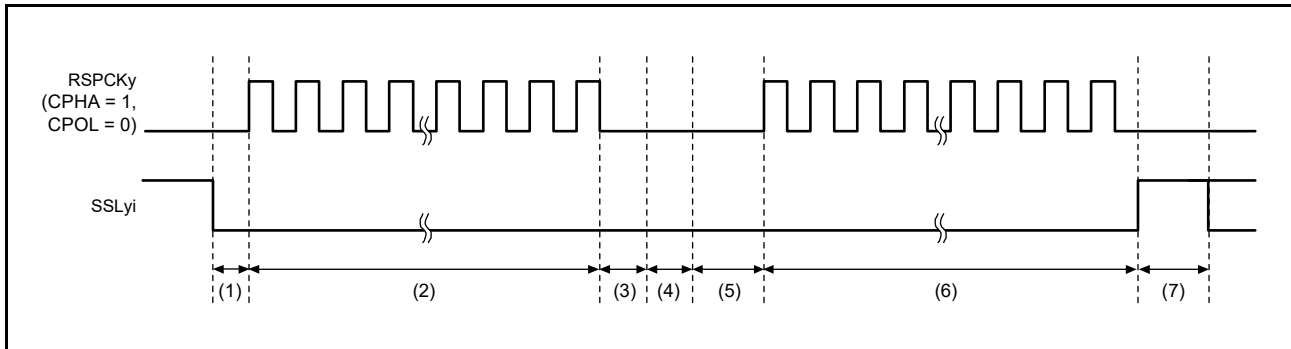

Figure 28.34 Example of Burst Transfer Operation Using SSLKP Bit
Figure 28.34 shows an example of an SSLyi signal operation for the case where a burst transfer is implemented using SPCMD0 and SPCMD1 register settings. The text below explains the RSPI operations (1) to (7) as shown in Figure 28.34. It should be noted that the polarity of the SSLyi output signal depends on the SSLP register settings.
- (1) Based on SPCMD0, the RSPI asserts the SSLyi signal and inserts RSPCK delays.
- (2) The RSPI executes serial transfers according to SPCMD0.
- (3) The RSPI inserts SSL negation delays.
- (4) Since the SPCMD0.SSLKP bit is 1, the RSPI keeps the SSLyi signal value on SPCMD0. This period is sustained, at the shortest, for a period equal to the next-access delay of SPCMD0. If the shift register is empty after the passage of a minimum period, this period is sustained until the transmit data is stored in the shift register for the next transfer.
- (5) Based on SPCMD1, the RSPI asserts the SSLyi signal and inserts RSPCK delays.
- (6) The RSPI executes serial transfers according to SPCMD1.
- (7) Because the SPCMD1.SSLKP bit is 0, the RSPI negates the SSLyi signal. In addition, a next-access delay is inserted according to SPCMD1.
If the SSLyi signal output settings in the SPCMDm register in which 1 is assigned to the SSLKP bit are different from the SSLyi signal output settings in the SPCMDm register to be used in the next transfer, the RSPI switches the SSLyi signal status to SSLyi signal assertion ((5) in Figure 28.34) corresponding to the command for the next transfer. Note that if such an SSLyi signal switching occurs, the slaves that drive the MISOy signal compete, and collision of signal levels may occur.